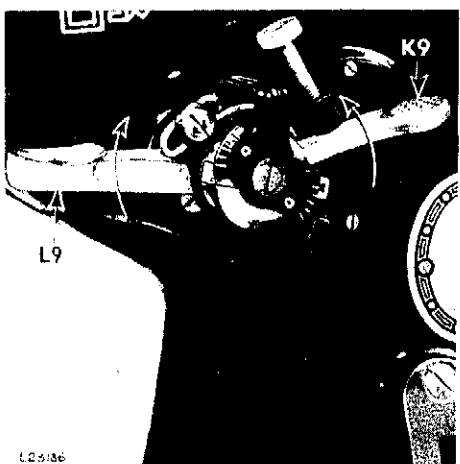

Fig. 210
**SETTINGS:** Bight control lever **K9** at **highest** point and position lever **L9** at **highest** point as shown in **Fig. 210**.